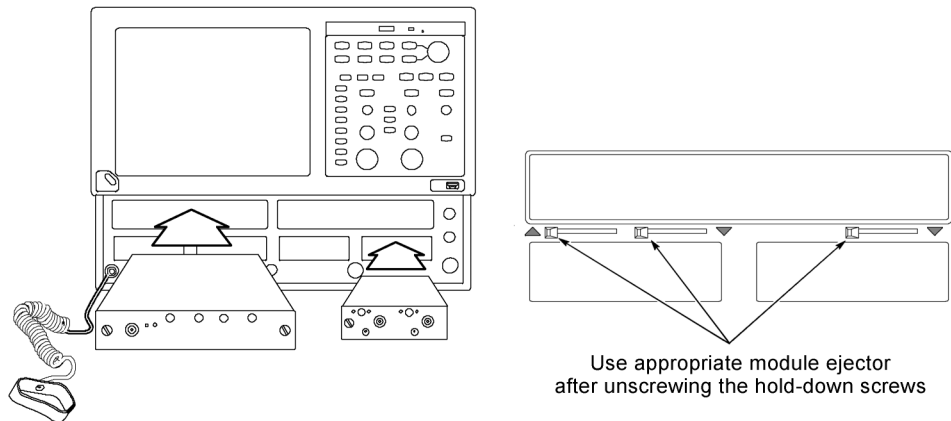

Figure 1: Module insertion and ejector locations
5. Use the module ejector lever to unseat the module. (See Figure 1.) The arrow near an ejector handle shows which compartment that ejector controls.